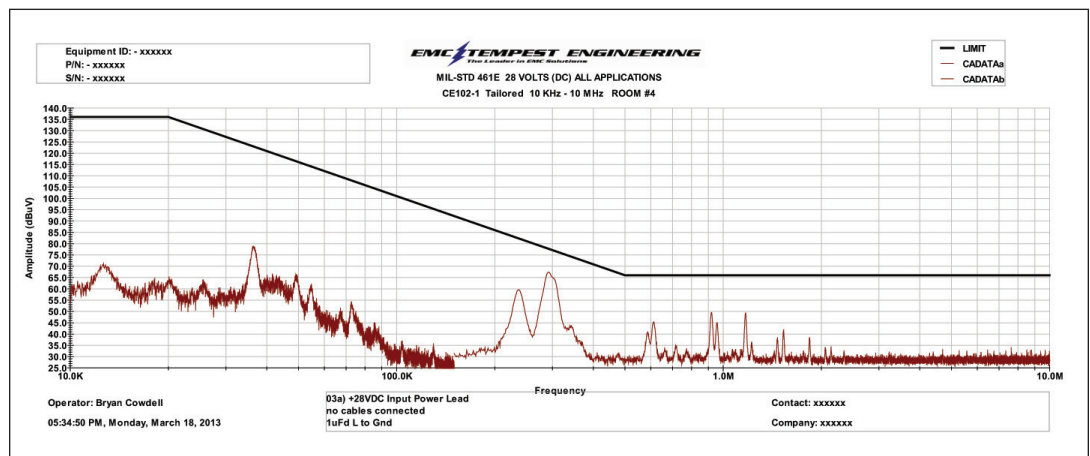

Figure 3
- These fixes solved the system's EMI issues and allowed it to pass EMI/ EMC compliance testing as in Figure 3.